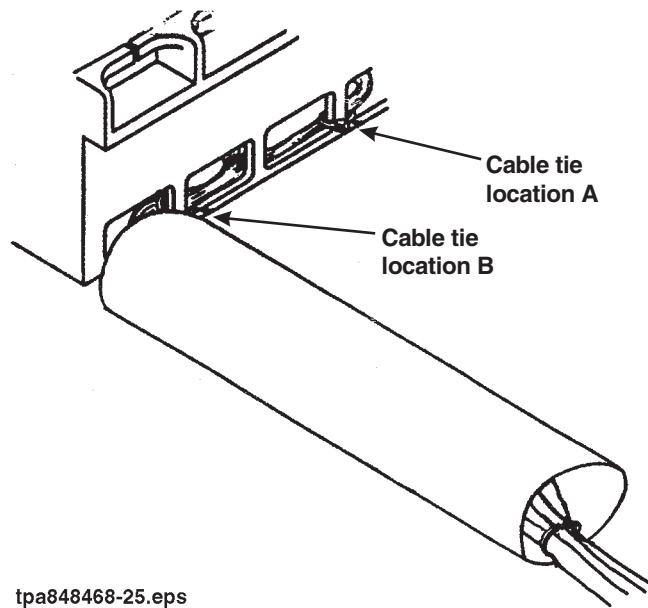

Figure 3. Cable Tie Locations A and B
- a) Secure two (2) pigtails associated with the left hand portion of the block (as viewed from the front) using a cable tie at location "A" in Figure 3. The location is the same for 711- and TRW-type connectors.
- b) Secure two (2) pigtails associated with the right hand portion of the block and two (2) pigtails associated with the left hand portion of the block (as viewed from the front) using a cable tie at location "B" in Figure 3 on page 5. The location is the same for 711- and TRW-type connectors.
3. Slip the vinyl sleeve over connectors A, B, C, and D of the associated connector cable assembly. The location is the same for 711- and TRW-type connectors. (See Figure 3.) Push the sleeving back over the butt of the connector cable and temporarily secure.
6. Fold the mated assembly back to the transverse the arm of the frame; Dress all four (4) pigtails to provide a 2 x 2 arrangement of connectors as close to the rear of the block housing as possible.
7. Slide the vinyl sleeving over connectors and secure with ties. Vinyl tape can be used to close the ends of the sleeving if required. (See Figure 3.)